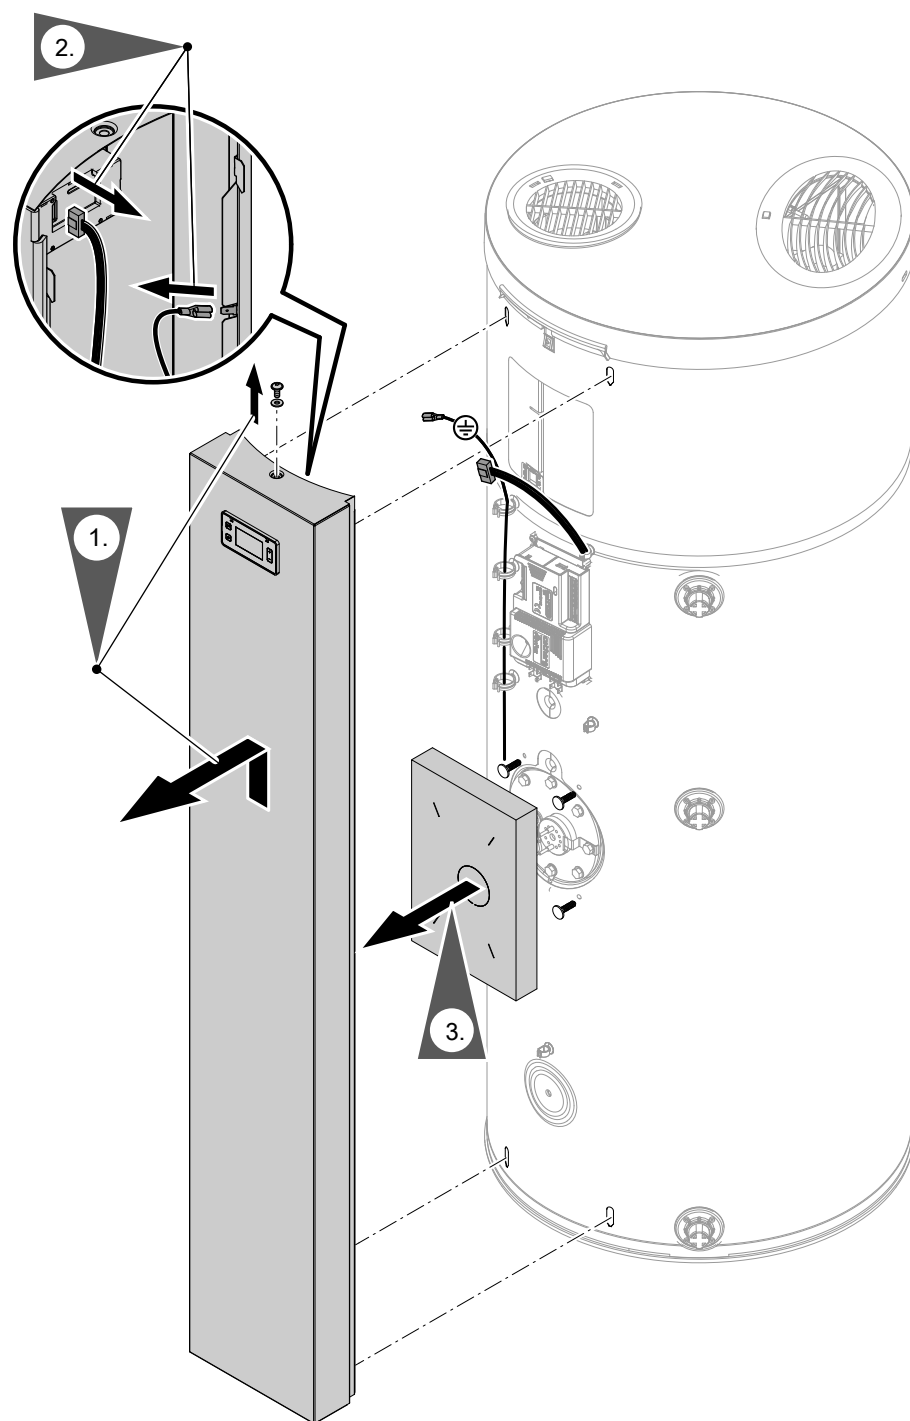

Fig. 27
2. Remove the front cover; see Fig. 27.
3. Remove the front cover; see Fig. 27.
12. Fit the front cover with earth cable; see Fig. 27.
- (A) Heat pump control unit
- (B) Reset button:
- (C) White: Unlocked
- (D) Red: Locked
2. Remove the front cover; see Fig. 27, page 43.
3. Use a screwdriver to press the red reset button. The reset button turns white (C).
4. Fit the front cover with earth cable; see Fig. 27.